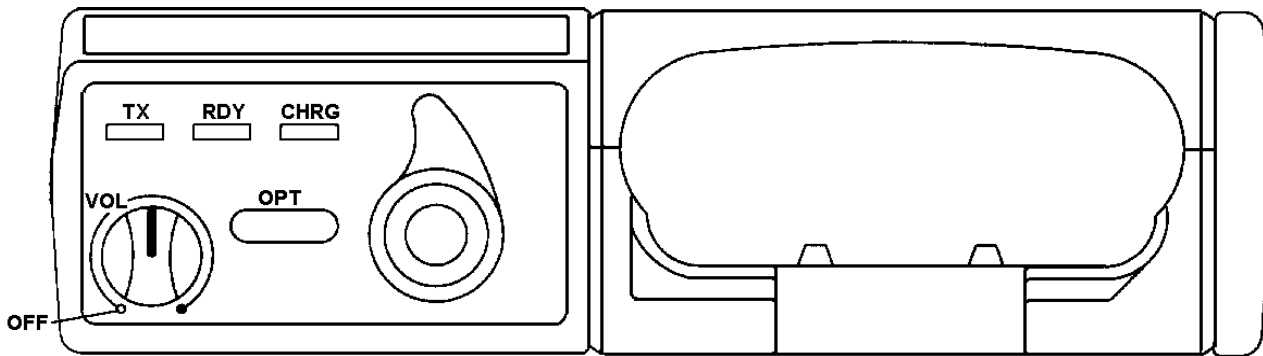

Figure 1A - M-RK Vehicular Chargers
The front panel of this charger contains three (3) indicator lights; **RPT**, **RDY**, and **CHRG**, an **ON/OFF** switch for the Repeater Radio and the **UDC ROTARY LATCH KNOB** (Refer to Figure 1A and 1B).
- (1) Indicator Lights:
- (2) Repeater ON/OFF switch:
The front panel of this charger contains three (3) indicator lights; **TX**, **RDY**, and **CHRG**, an **ON/OFF** volume control switch for operation of the M-RK personal radio as a mobile radio, an option push-button, and the **UDC ROTARY LATCH KNOB** (Refer to Figure 1A).
- (2) **ON/OFF** Volume Control Switch: